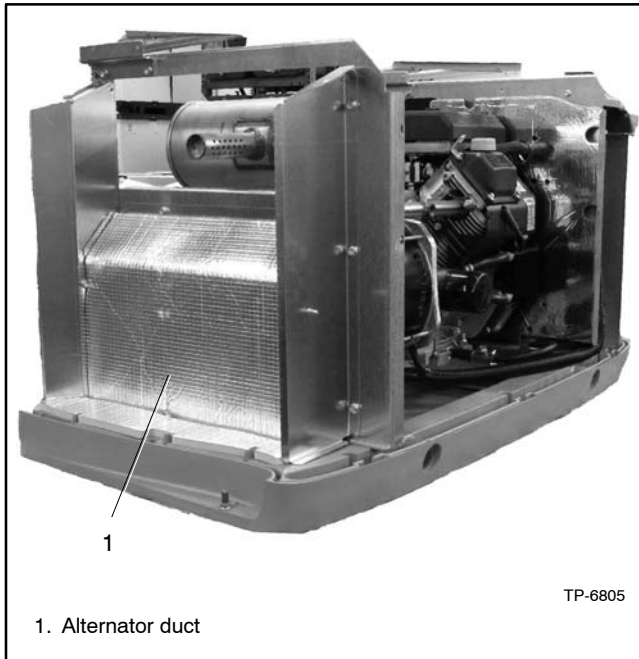

Figure 7-8 Alternator Duct
14. Remove the alternator air inlet duct. See Figure 7-8.